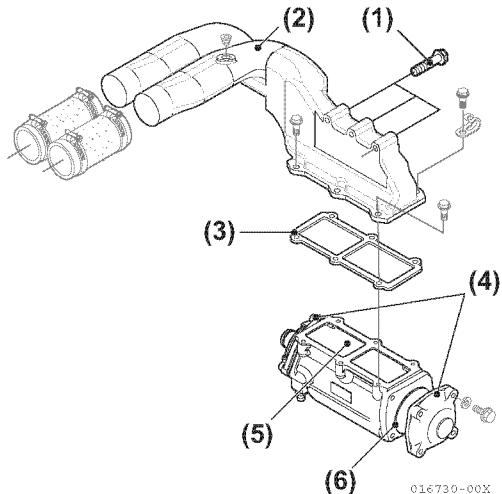

Figure 7-21
1. Loosen bolts (**Figure 7-21, (1)**) and remove intercooler from cooling freshwater cooler. See *Remove the intercooler (only for 4JH4-HTE)* (*Figure 5-21*): on page 5-36.
2. Remove air duct assembly (**Figure 7-21, (2)**) and gasket (**Figure 7-21, (3)**).
3. Remove water box A and B (**Figure 7-21, (4)**).
4. Disassemble, inspect, and clean intercooler assembly (**Figure 7-21, (5)**) and change as necessary. *NOTICE: NEVER use caustic soda to clean the components. Use paraffin-based engine detergent to clean the cooler element. Thoroughly flush and rinse all components.*
6. Install new O-rings (**Figure 7-21, (6)**) on water boxes.